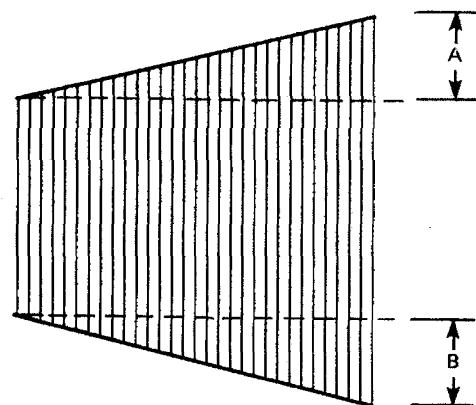

Figure 6-8. Modulator Symmetry Adjustment
- Adjust CARRIER LEVEL for the waveform shown in Fig. 6-8.
- Adjust VR207 to equalize the A and B parts of the waveform shown in Fig. 6-8.